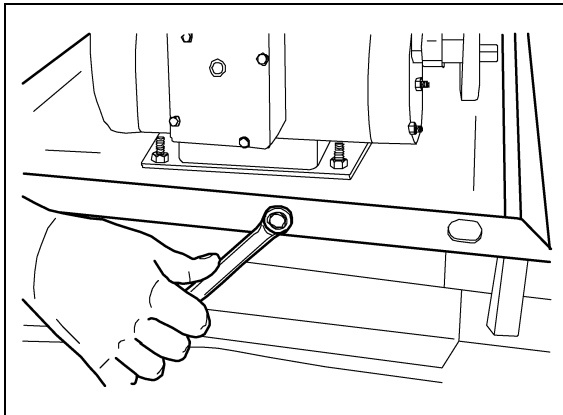

Figure 4N
9. Next, place the A-31 belt onto the pulleys. Tighten the belt to its proper tension of $\frac{3}{8}$ " deflection at ten pounds of pressure by turning the $\frac{3}{8}$ " cap screw as shown in \(See Figure 4N\). Tighten the four $\frac{5}{16}$ " nuts on the motor base. Replace the belt shield.